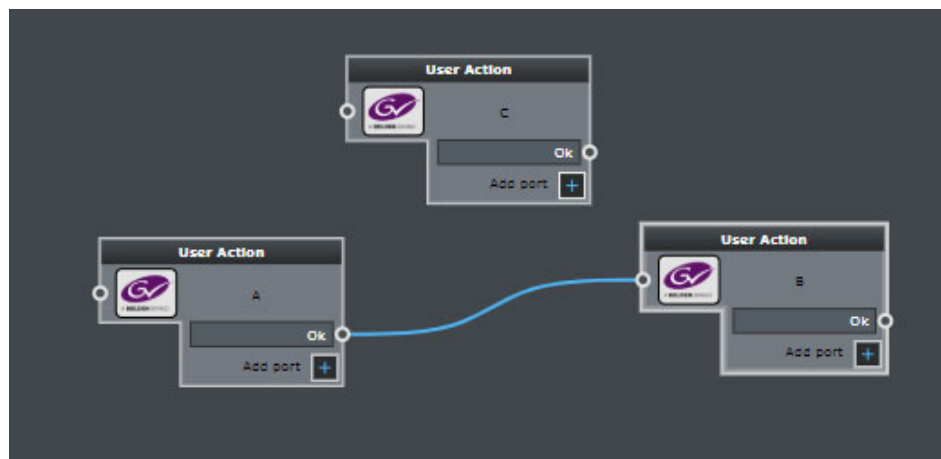

Fig. 3-72: Using the Link Between Option
- **Link between:** Enables you to link a workflow element between two already linked elements. For example, consider the example in Figure 3-72: